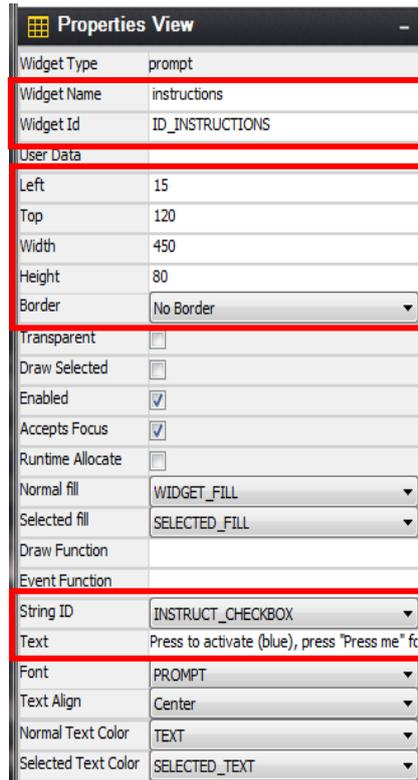

Figure 86 Configure Prompt Properties
34. In the Project View under window1, click on prompt then modify the properties to match Figure 86.